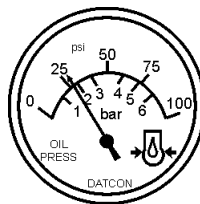

Figure 48. Oil Pressure Gauge
9. The engine oil pressure gauge (Figure 48) will indicate the oil pressure of the engine. Under normal operating conditions the oil pressure is approximately 44 to 73 psi. (303~503 kPa). When starting the genera